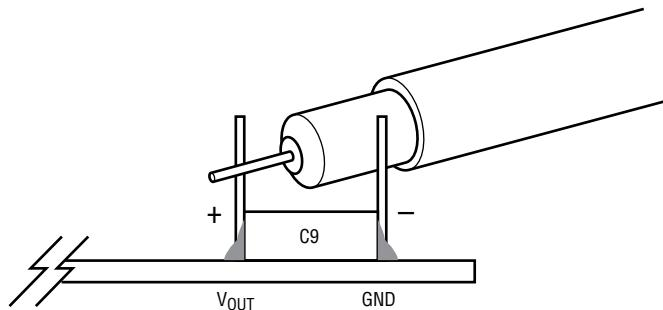

Figure 2. Measuring Output Voltage During Switching across C9. Note that C9 May Not Be Installed
**NOTE:** When measuring the output voltage during switching transitions, care must be taken to avoid a long ground lead on the oscilloscope probe. Measure the output voltage by touching the probe tip and ground ring directly across the output capacitor as shown in Figure 2.